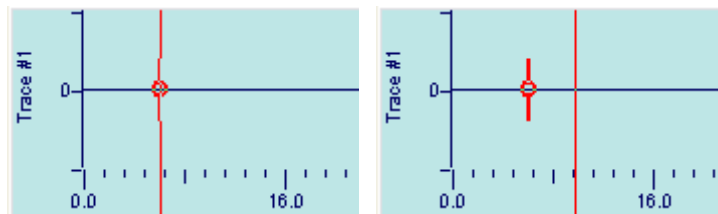

Figure 29 First break marker (timeline moved on the second figure)
- Positioning a first break marker (Figure 29)